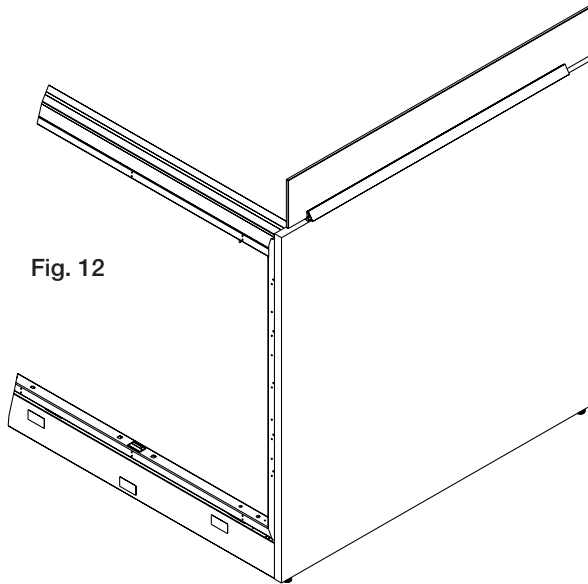

Fig. 12
12. Align the trim piece with the installed channel (end to end), rotate down into place and then apply clamps as shown (**Figs. 12 and 12.2**) at all tape positions. Keep clamps in place (under pressure) for 10 minutes.